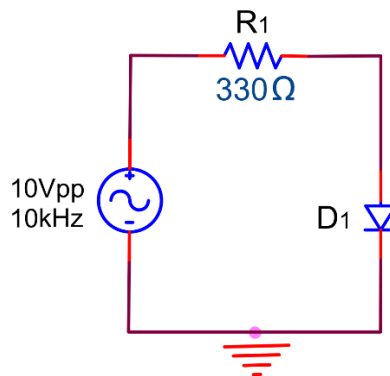

Figure 16.3
3. For Figure 16.3 calculate V_{R1} , V_{D1} , and I_f . Enter the data into table 3 in the procedure section.